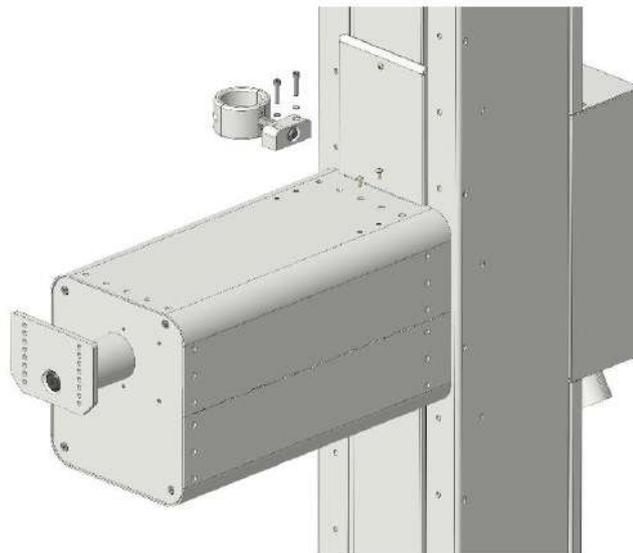

Figure 32 – Mounting the cable clamp on tube arm
1. Mount the cable clamp (Figure 32) on the tube arm using the supplied Allen-head screws.